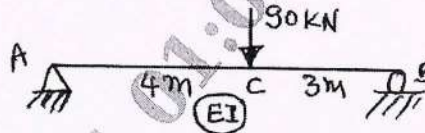

Fig. Q3 (c)
c. Find deflection at 'C' and slope at A and B for the beam shown in Fig. Q3 (c) using moment area method. (10 Marks)